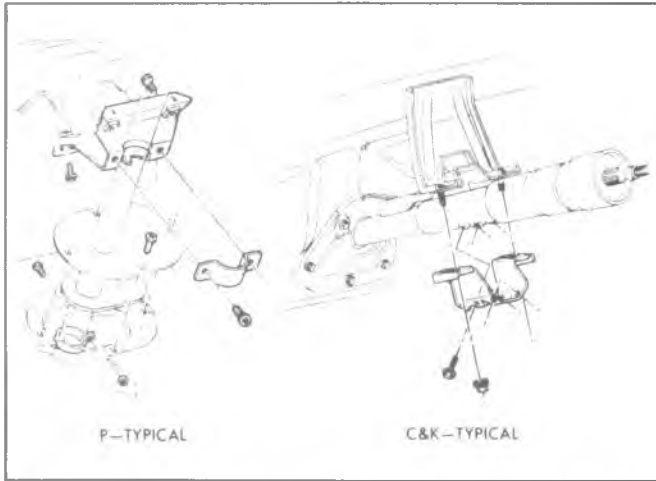

Fig. 3B4-34-Steering Column to Dash Panel-C, K Typical
7. Remove the transmission indicator cable, if so equipped (Fig. 3B4-33).
8. Remove the screws securing the two halves of the floor pan cover; then remove the screws securing the halves and seal to the floor pan and remove the covers (Fig. 3B4-34).